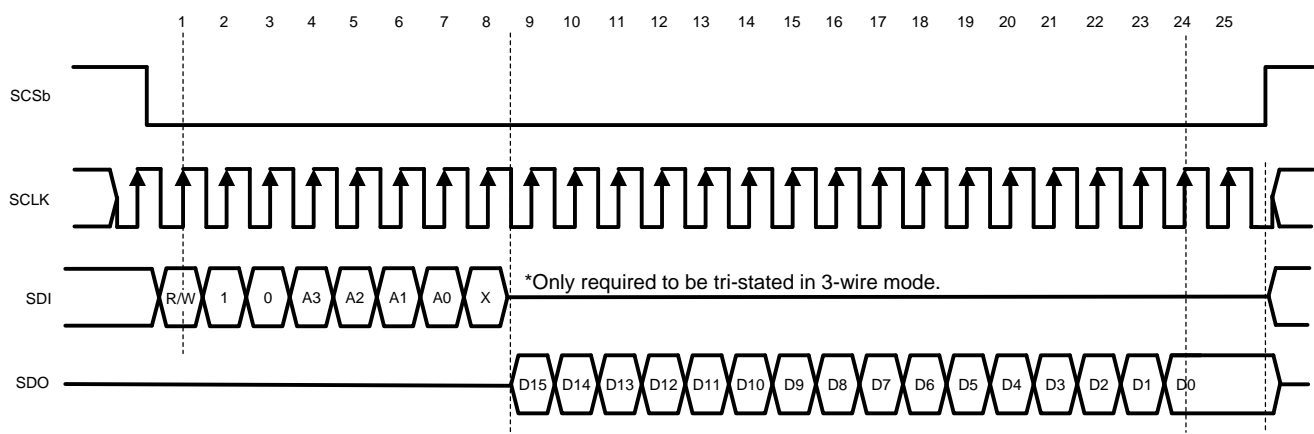
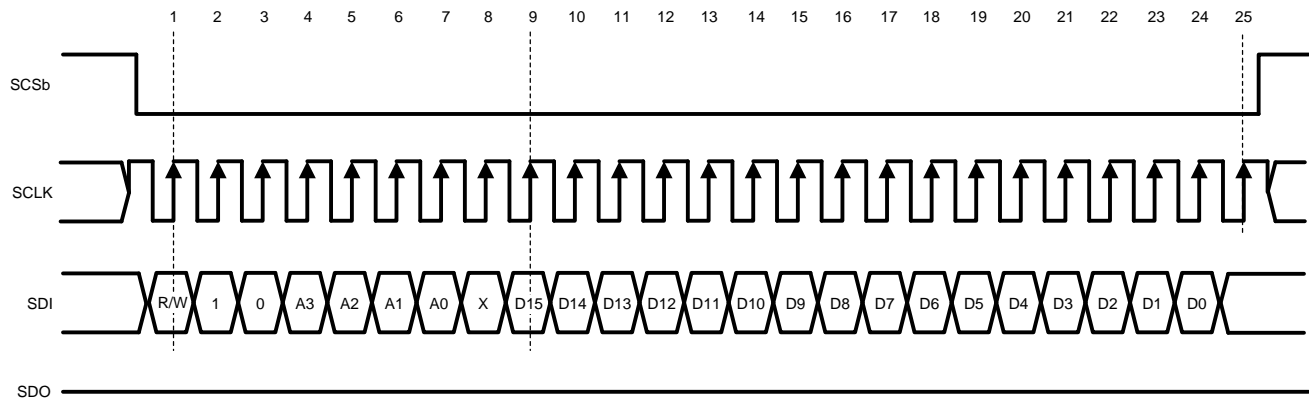

Figure 6-1. Serial Data Protocol - Read Operation
Figure 6-2. Serial Data Protocol - Write Operation
(1) The serial data protocol is shown for a read and write operation in Figure 6-1 and Figure 6-2, respectively.